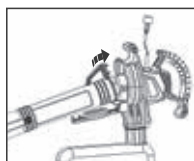

Fig. 9
4. Attach the vacuum/mulcher/tube assembly to the motor housing by locating the assembly as indicated by arrow, then pivot about this point until the locking/release catch is fully engaged (Fig. 9 & 10).